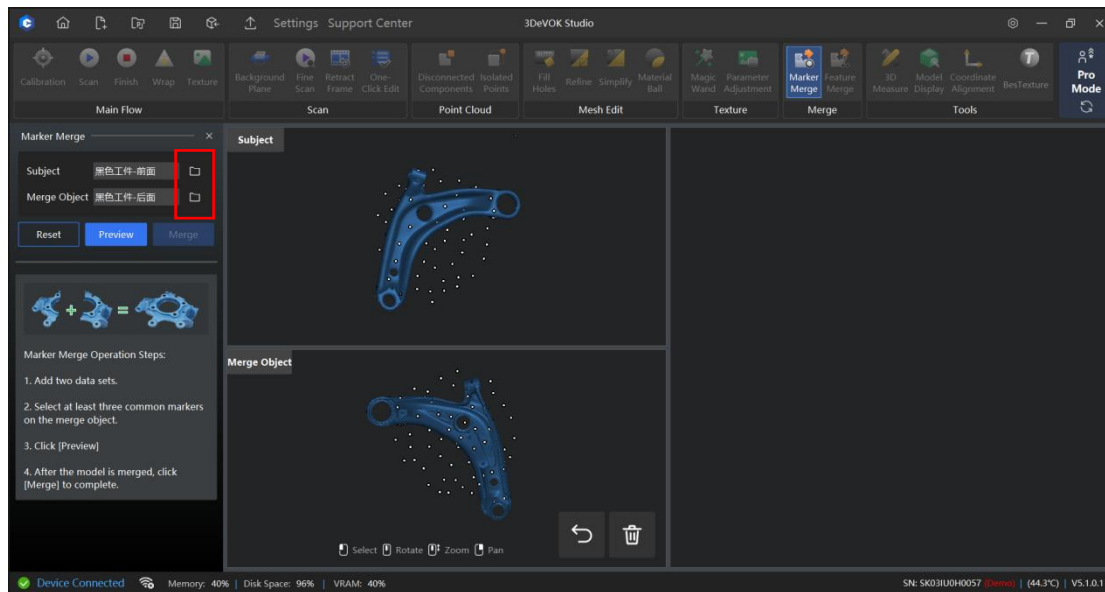

Figure 9-7 Import Point Cloud Projects in Marker Merge
3. Import the target point cloud projects (Project A and Project B) into the dual-view workspace by clicking the import button (highlighted in red frame), which is shown in Figure 9-7.